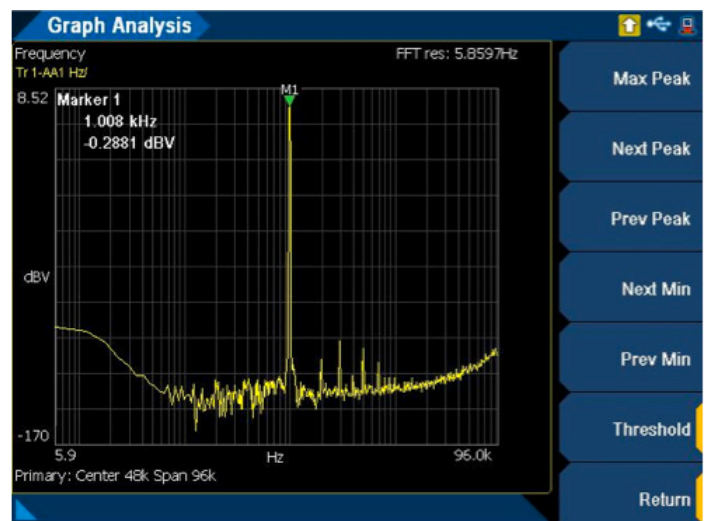

Figure 10. Peak search on FFT graph
- The M1 measurement result is shown in Figure 10.